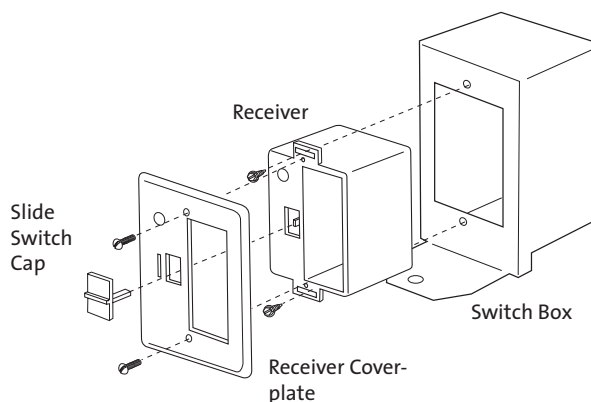

Figure 39. Install Remote Receiver into the burner switch box.
3. With the battery box oriented to the right, attach the Receiver assembly onto the front of the insert Burner switch box using the two sheet metal screws previously removed from the original coverplate. See fig. 39.